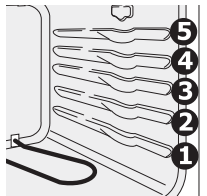

Figure 3: Wall oven rack positions
- When baking using two oven racks, place the oven racks on positions 2 and 4 (Figure 3). Be sure the pans do not touch each other, the door, sides, or the back of the oven.